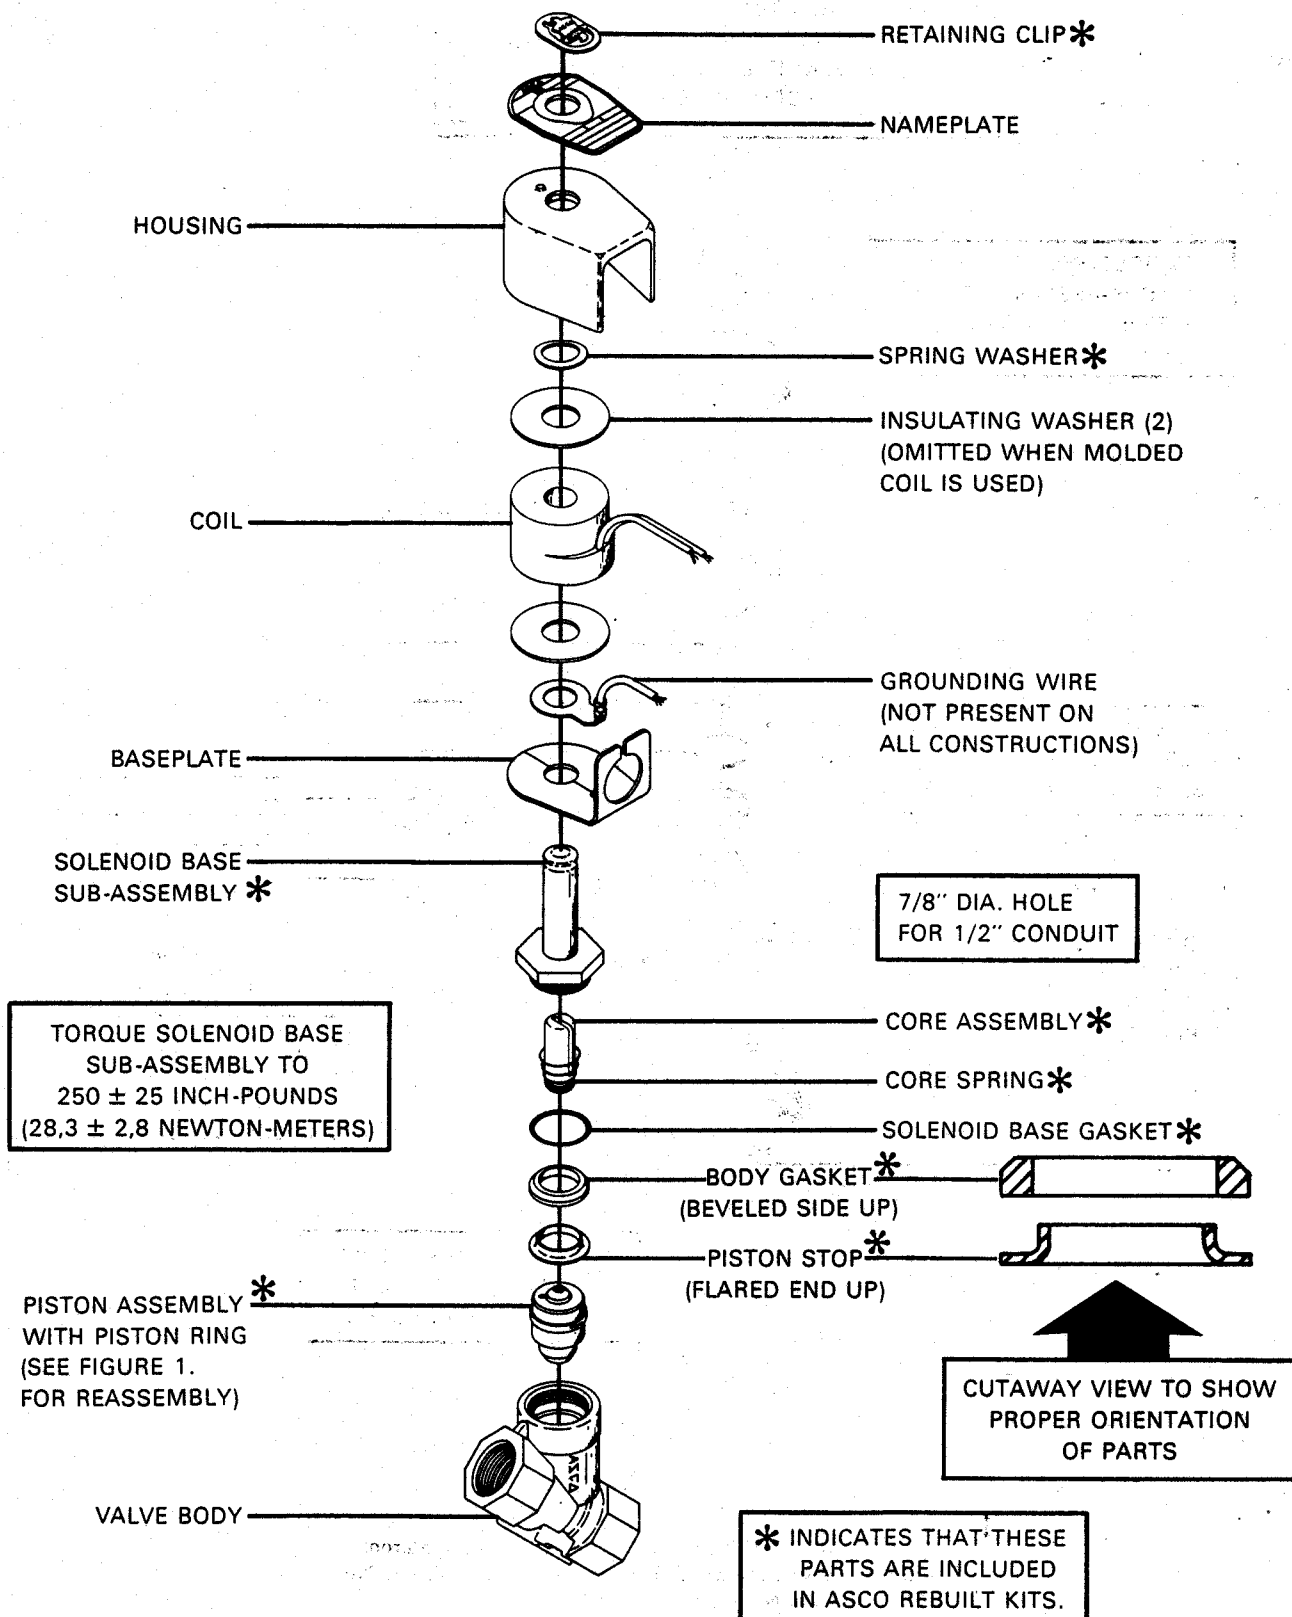
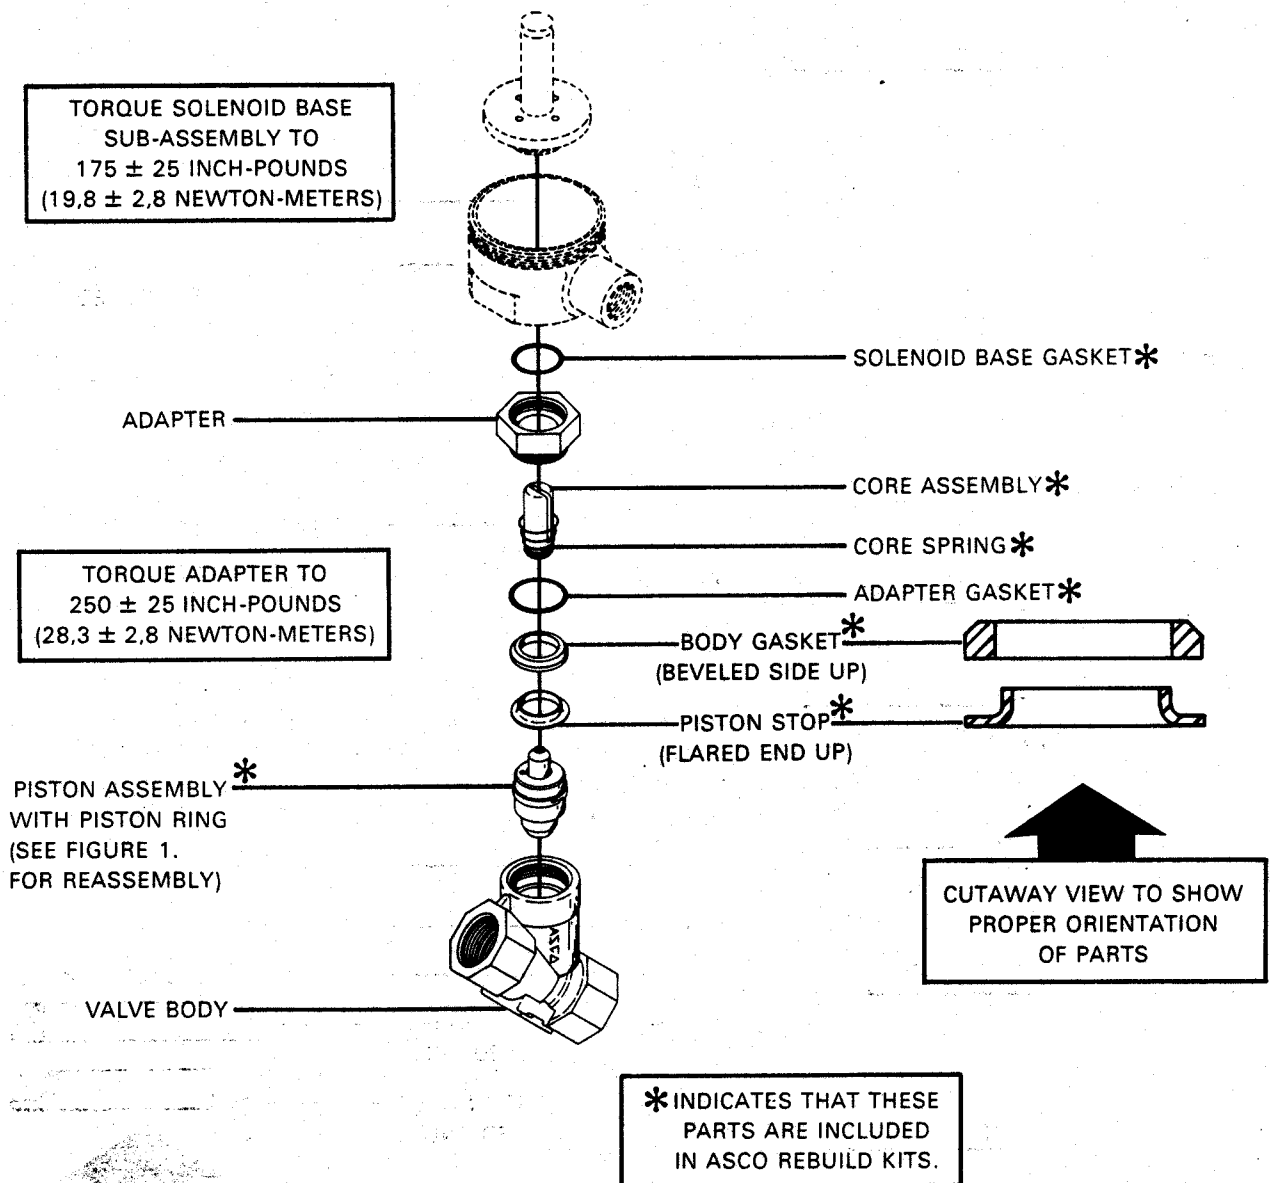

Figure 2. Bulletin 8222, General Purpose Solenoid Enclosure Shown.
Figure 3. Partial View of Bulletin 8222, With Explosion-proof Solenoid Enclosure Shown. For the Portion of the Solenoid Not Shown, See Form No.V5380.
Coil Replacement (Refer to Figure 2.)
NOTE: For valves with explosion-proof solenoid enclosures (Figure 3), see Form No. V5380.
NOTE: For valves with general purpose solenoid enclosures, see Figure 2. For valves with explosion-proof solenoid enclosures, see Figure 3 and refer to Installation and Maintenance Instructions, Form No. V5380 for the solenoid portion of the valve.
General Purpose (Figure 2)
Explosion-Proof (Figure 3)
2. Lubricate solenoid base gasket and adapter gasket (Figure 3) with DOW CORNING® 111 Compound lubricant or an equivalent high-grade silicone grease.
5. For valves with a general purpose solenoid enclosure (Figure 2), replace solenoid base gasket, core assembly with core spring, and solenoid base sub-assembly. Torque solenoid base sub-assembly to 250 ± 25 inch-pounds ($28,3 \pm 2,8$ newton-meters). Replace the following solenoid parts:
For valves with an explosion-proof solenoid enclosure (Figure 3.) place adapter gasket in valve body. Apply Dow Corning Corporation's MOLYKOTE® Anti-Seize Thread Compound to adapter threads and install adapter into valve body. Then torque adapter to 250 ± 25 inch-pounds ($28,3 \pm 2,8$ newton-meters). For lubrication instructions, refer to Form No.V5380 before proceeding. Then install solenoid base gasket, core assembly with core spring, housing, and solenoid base sub-assembly. Torque solenoid base sub-assembly to 175 ± 25 inch-pounds ($19,8 \pm 2,8$ newton-meters). Install remaining solenoid parts as shown on Form No.V5380.